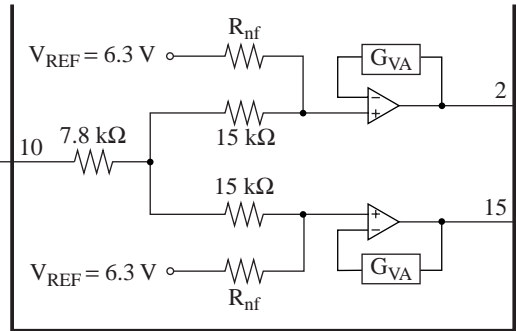

Figure 8
- 1) The application circuit using the beep sound input is shown in figure 8. Connect the beep signals from the microcomputer to pin 10 via the capacitor C1 for DC cut and the resistor R1 for voltage gain adjustment.
- 2) The voltage gain of beep sound terminal is approx. -6.2 dB. In the setting value of figure 8, it becomes approx. -19.7 dB (f = 1 kHz).